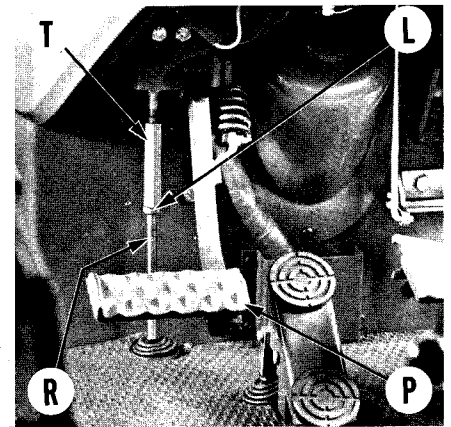

Fig. 136—Clutch pedal free play on 8700, 9700, TW-10, TW-20 and TW-30 models should be 1-1/8—1-5/8 inches. Rotate turnbuckle (T) to adjust free play.
161. Measure clutch pedal free play at pedal as shown in Fig. 136. Clutch pedal free play should be 1-3/8-1-5/8 inches. To adjust free play, loosen locknut (L) and rotate turnbuckle (T) on clutch pedal control rod (R).